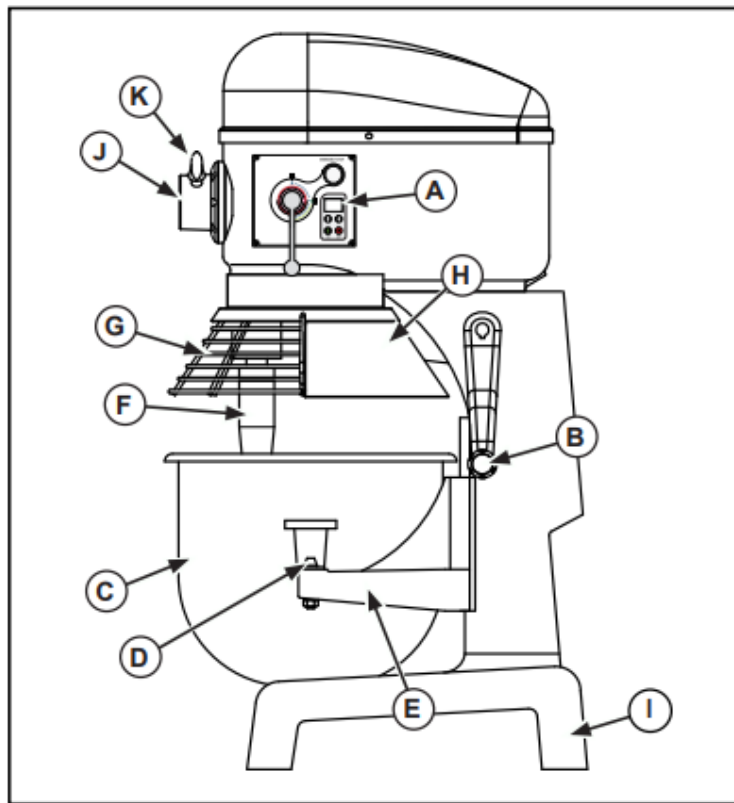

Figure 3. 40 Quart Mixer, Features and Controls.
1. Close the bowl guard (**G**). See Figures 3 or 4. The safety guard must be closed for the mixer to operate. If the safety guard is open or not closed properly then the mixer will not operate.